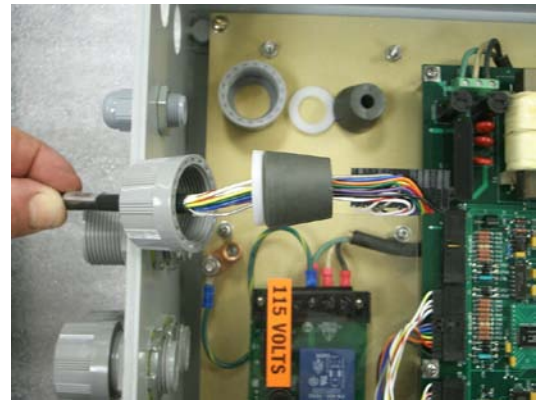

Figure 37. Sensor Head Cable Installation
3. Route the cables through the strain relief on the bottom of the control board enclosure by folding the connector back over the cable and bending the cable 90° (see Figure 37). This will enable the connector and cable to fit through the strain relief nut and grommet and through the strain relief itself into the enclosure.